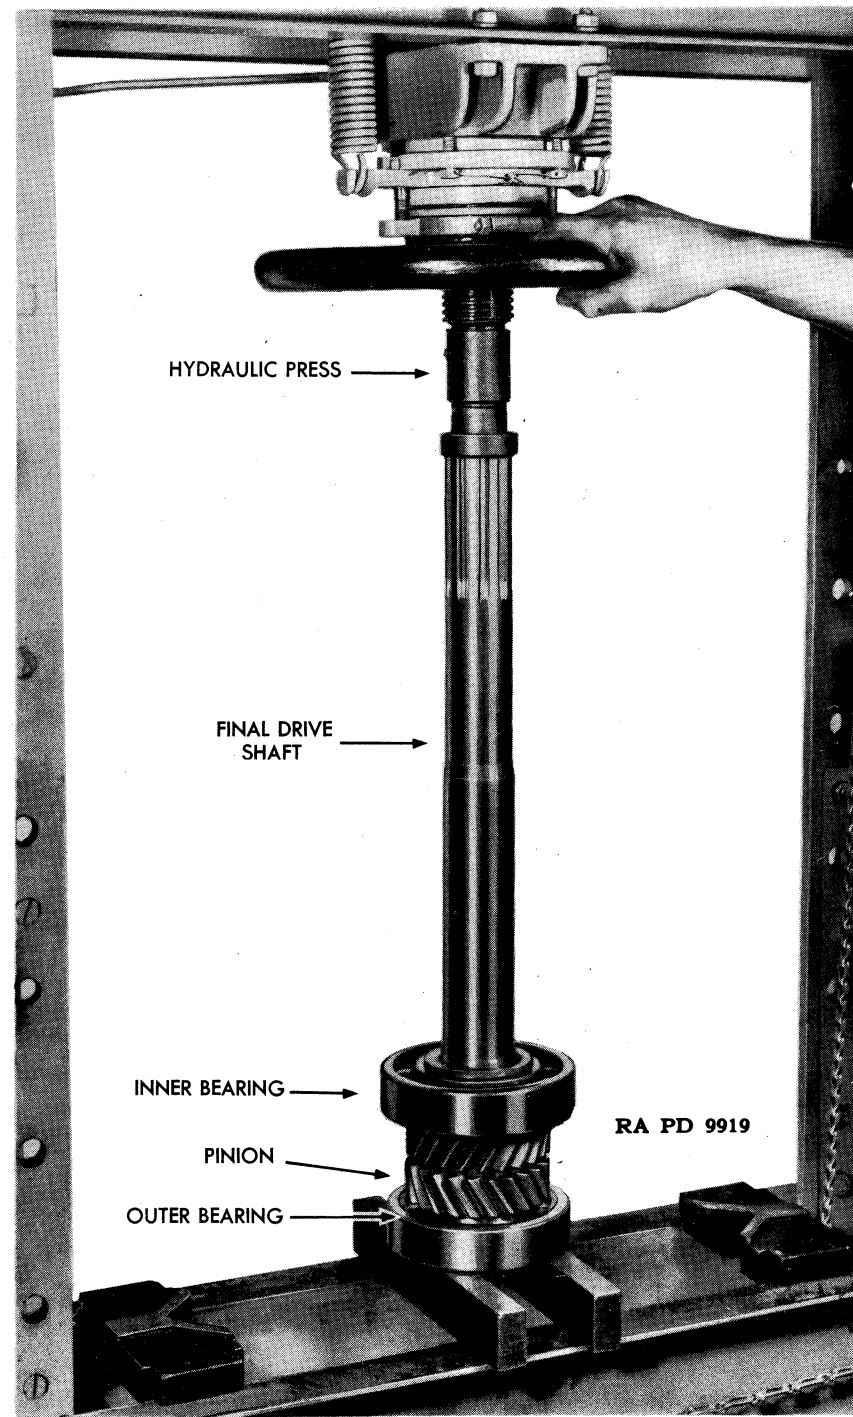
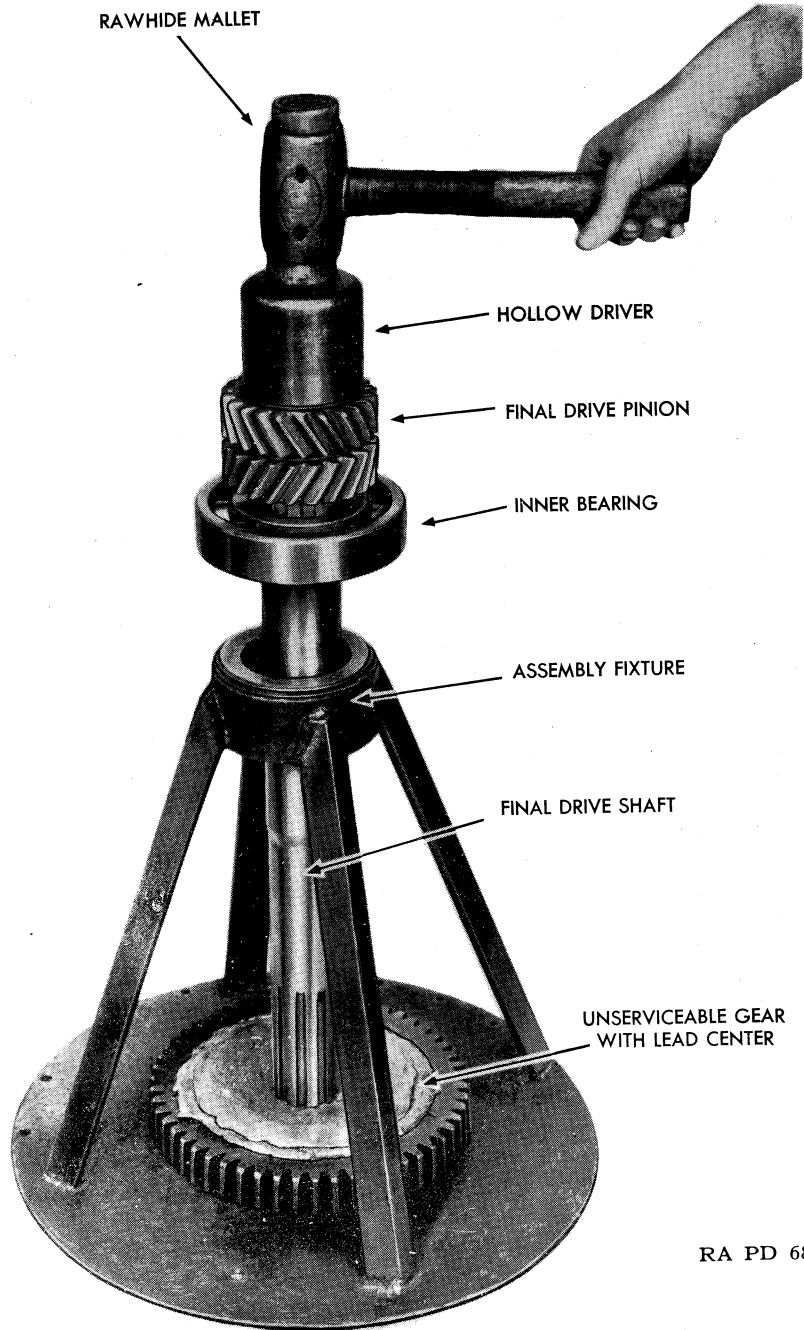

FIGURE 86—Installation of final drive shaft outer bearing.
FIGURE 87—Driving pinion onto final drive shaft.
b. *Assembly (fig. 86).*—Place inner BEARING (A143816) in an arbor press supported *at the inner ring* by the press bars. Start drive shaft into the bearing and operate press until bearing is solidly against the shoulder on the shaft. Press shaft with bearing into the splined pinion in the same manner. Press shaft with inner bearing and pinion into outer bearing (fig. 86). Remove shaft from the press and secure in a vise equipped with copper jaws. Put on nut and tighten ($3\frac{9}{16}$ -in. open end wrench). Lock with cotter pin. NOTE: If a press is not available for the above assembly operations, an assembly stand with a lead base may be used as shown in figures 87 and 88. Be sure, when driving bearings on, that a